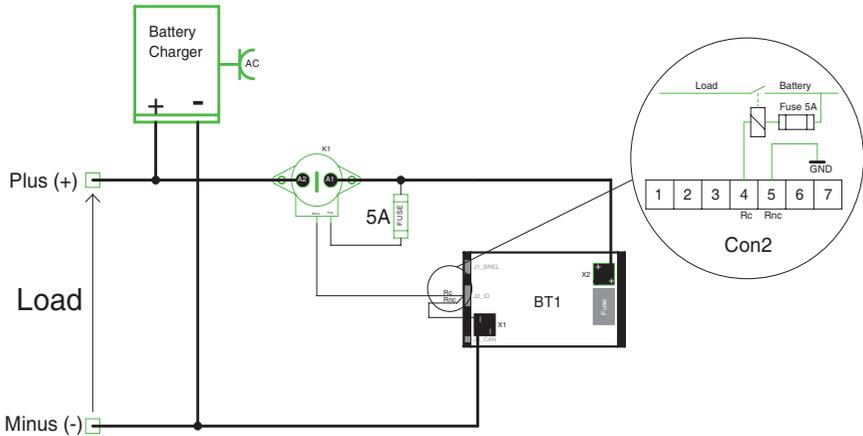

Figure 4. Connect a normal relay as Battery Disconnect device.
1. When using a normal relay, connect it to Con 2 (I/O Connection 7), Pin 4 (Rc) and Pin 5 (Rnc) as displayed in Figure 4.